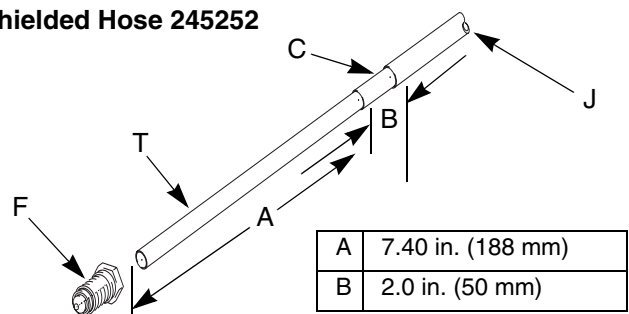

Fig. 4. Waterborne Hose Dimensions (At Gun)
2. For the fluid hose to fit properly, it must be stripped and assembled to the dimensions in FIG. 4.. Push the inner tube (T) into the fitting (F) until the tube bottoms. A new Graco waterborne fluid hose comes fully assembled to these dimensions.